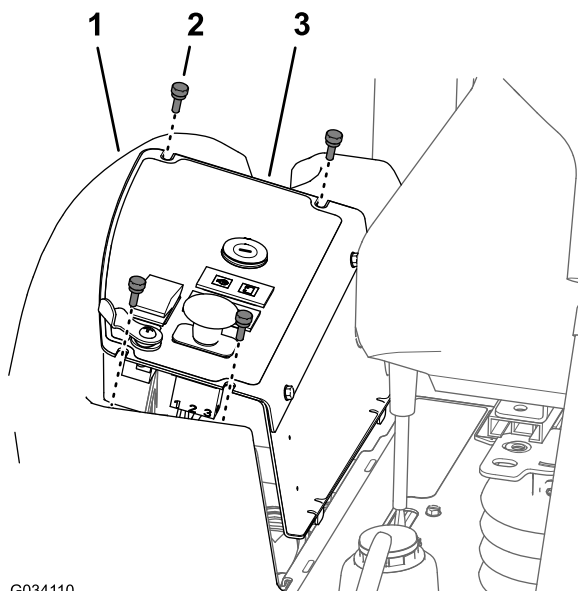

Figure 57
1. Remove the 4 thumb screws that secure the control-panel plate to the fuel tank (Figure 57).
2. Lift up the control-panel plate (Figure 57).
3. Align the slots in the top of the control-panel plate with the holes in the flange of the fuel tank (Figure 57).
4. Assemble the control panel plate to the flange of the fuel tank with the 4 thumb screws (Figure 57) the you removed in step 1 of Removing the Control-Panel Plate (page 45).